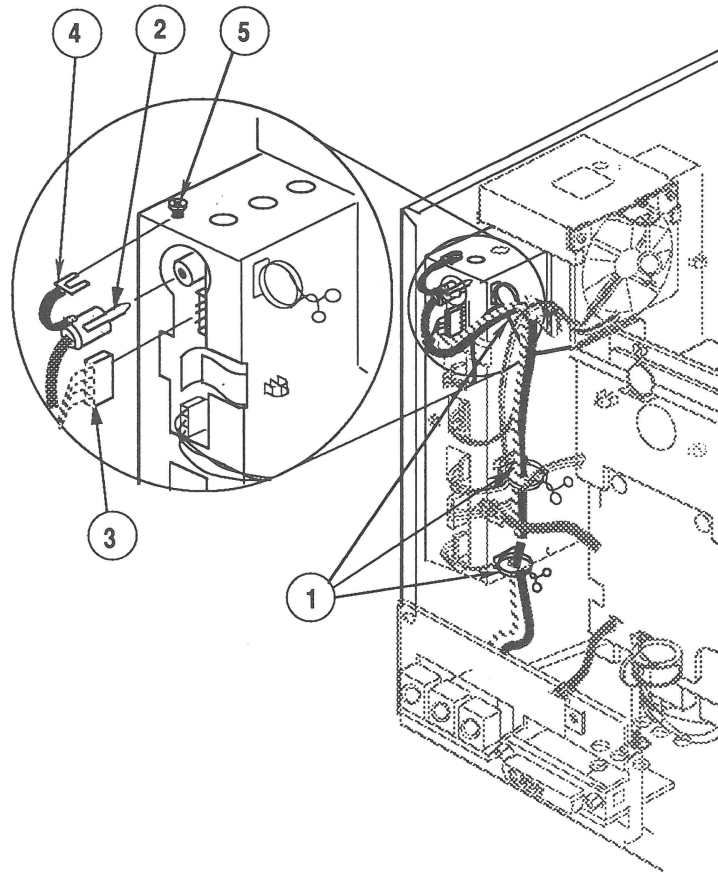

FIGURE 14
2. Lace the two signal input assembly cables up through the three cable clamps (Figure 14, #1) to the video board. Close the cable clamps.
- Black video cable (Figure 14, #2)
- 4-wire connector (Figure 14, #3)
4. Replace the black ground cable (Figure 14, #4) and tighten the screw (Figure 14, #5).